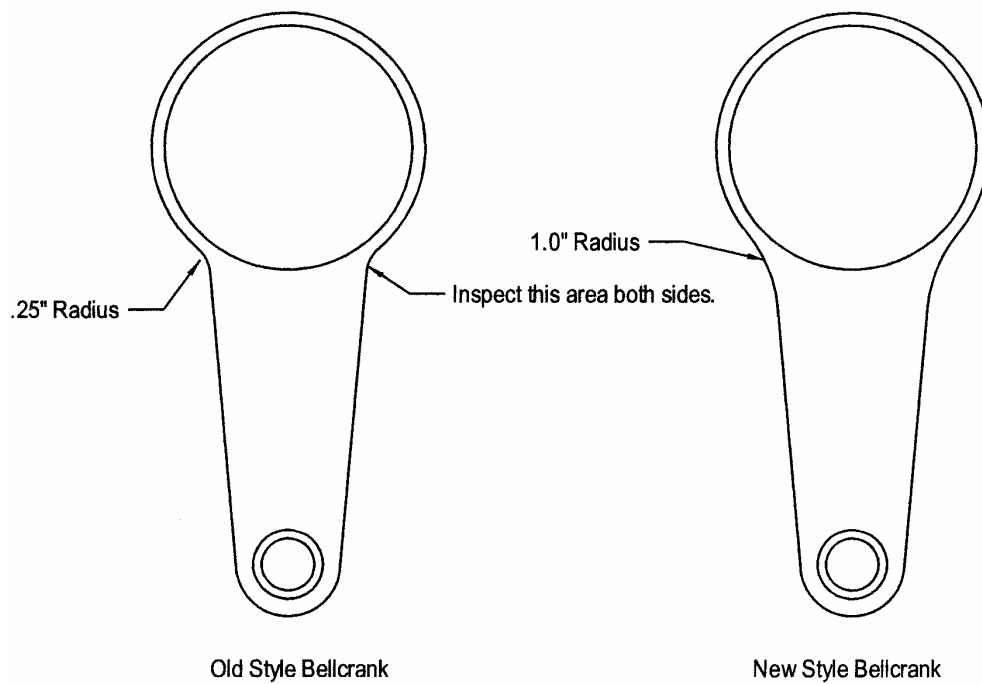

Figure 2. Radius Measurement Location for Bellcrank P/N 28-16233-1
- A. Measure the radius between the arm and the strap of the bellcrank. See Figure 2.